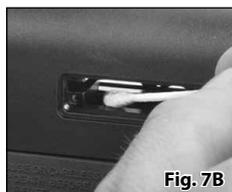

Fig. 7B
4. Using a cotton swab apply a graphite moly grease to the bore surfaces of the receiver where the bolt mechanism slides as shown in Figure 7B. CRC Industries Moly-Graph is a suitable grease for this application. Perform this procedure at approximately 200 shot intervals. Removal of the rubber filler in the cheek piece is recommended to gain access to the surfaces requiring lubrication.